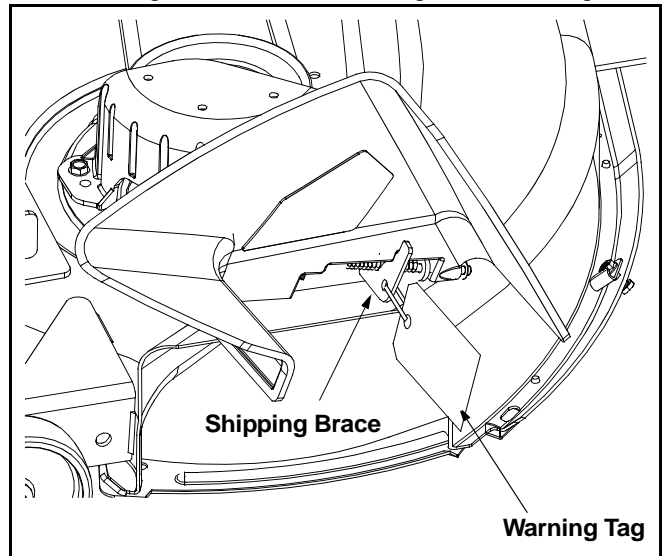

Figure 2
- Locate the shipping brace and warning tag found on the right side of the mower, between the discharge chute and the cutting deck. See Figure 2.